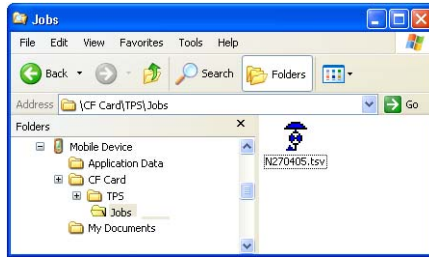

Figure 8-4. Selecting a Folder in the TPS Controller
1. Open Windows Explorer and click the *Mobile Device* folder. The right panel of the window displays the contents of the Topcon Controller (Figure 8-4). Select the folder in the TPS Controller